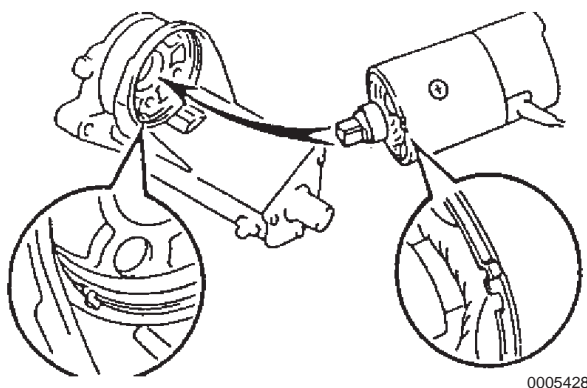

Figure 10-40
11. Align the projection of the field coil frame with the cutout in the magnetic switch (**Figure 10-40**).